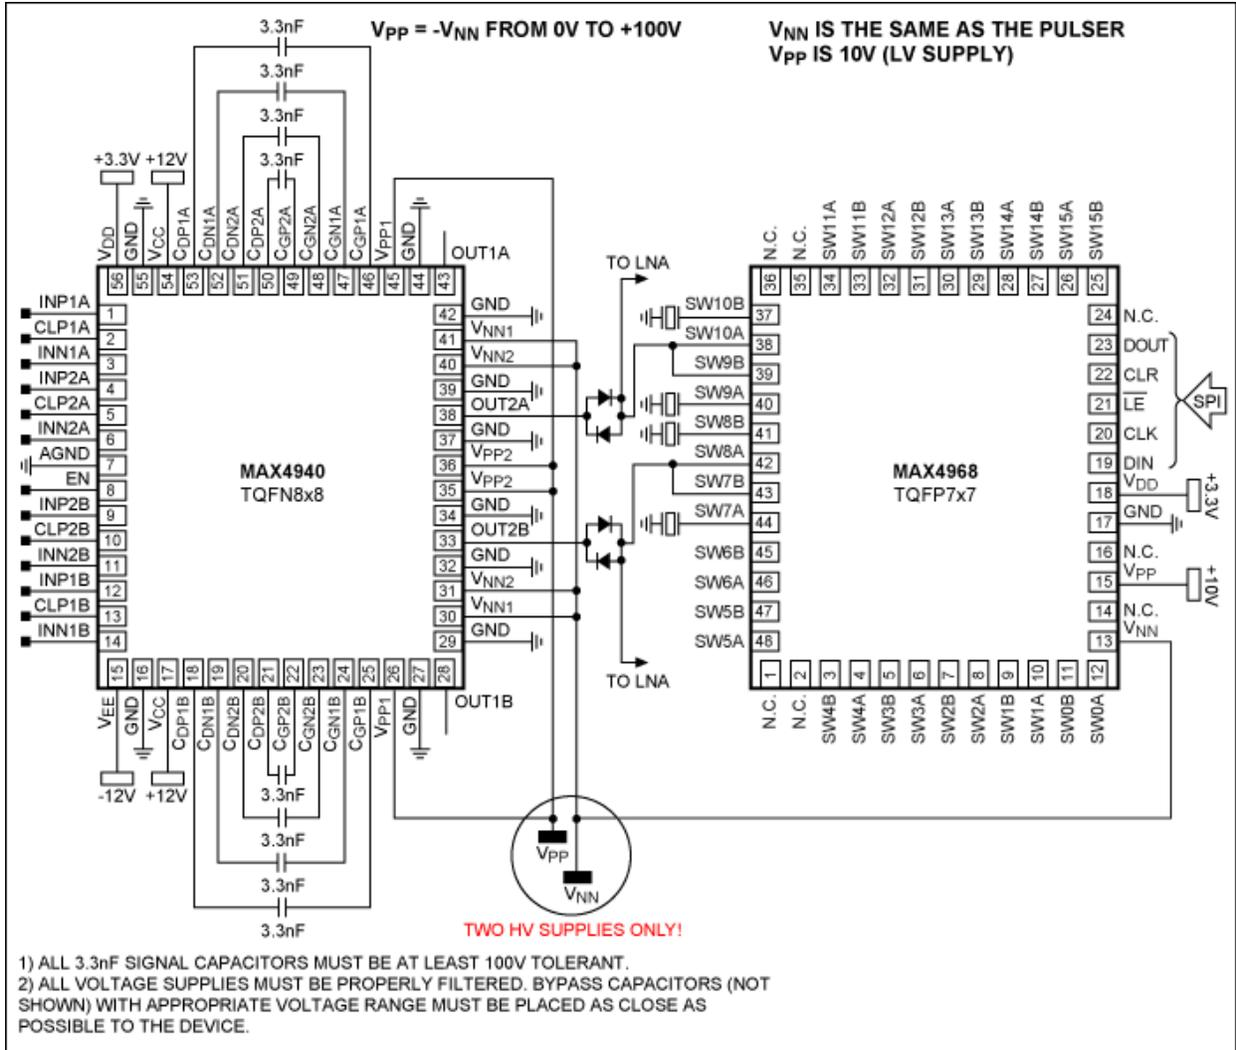

Figure 4. Using the MAX4940 and MAX4968 together greatly simplifies design using High Voltage Supplies in bipolar applications.
3. The MAX4940's exposed pad (not shown in Figure 4) must be connected to V_{NN}.